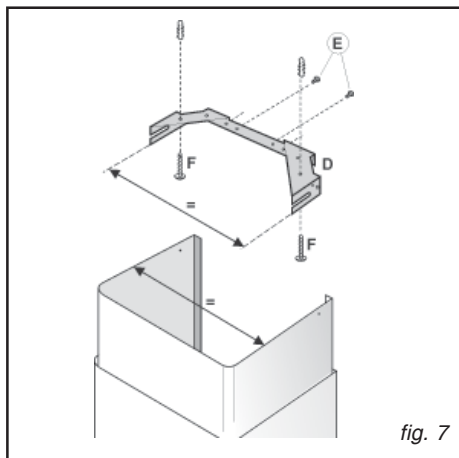
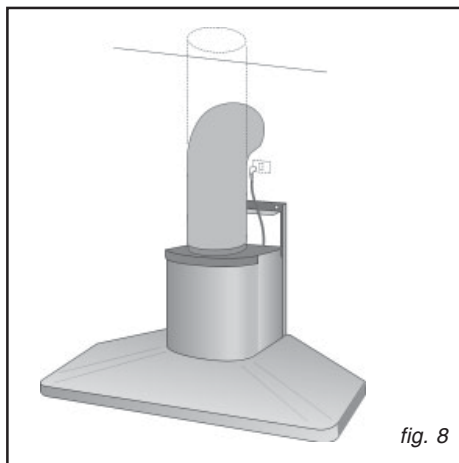
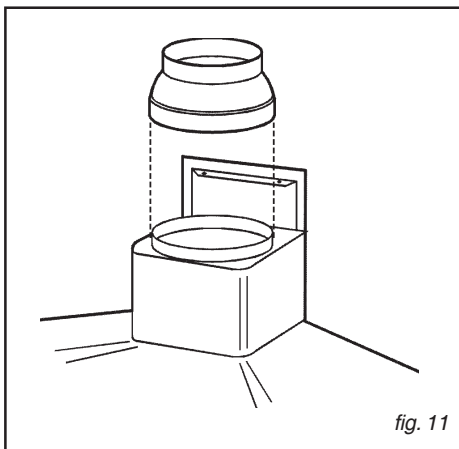

fig. 7
fig. 8
fig. 11
- Adjust the width of the support bracket (D) of the telescopic flue by means of the screws (E) as shown in fig.7.
- Then, by means of the screw anchors and screws (F) provided, fix the bracket to the ceiling in such a way that it is positioned along the axis with your hood.
- Connect the air outlet pipe to the air vent of the hood; use a flexible pipe and lock it to the air vent of the hood with a metal hose clamp - fig. 8 (pipe and clamp are not provided).
- Adjust the width of the support bracket (D) of the telescopic flue by means of the screws (E) as shown in fig. 7.
- Mount the flange on the hood in correspondence to the air outlet point (fig. 11).